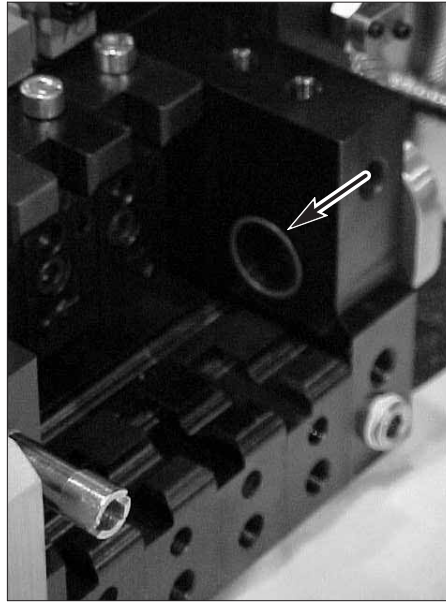

Figure 7-30 Location of the pump side seal
3. See Figure 7-30. Install the pumps, working from right to left and ensuring that the pumps are completely seated.